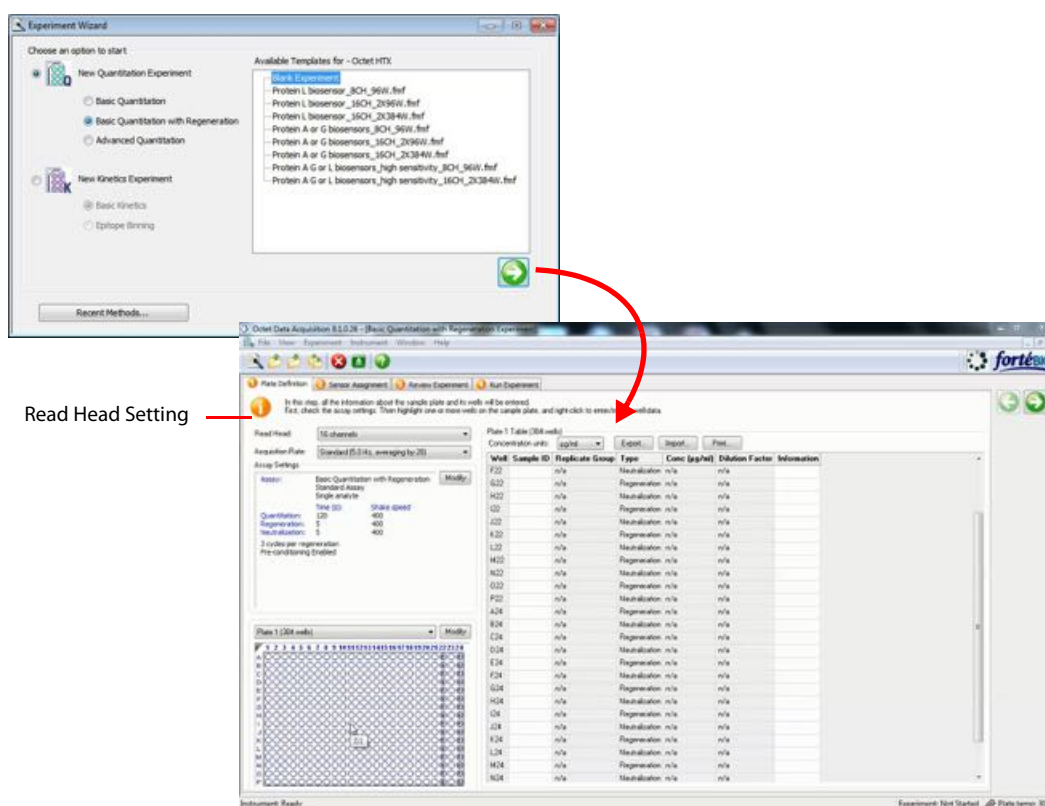

Figure 7-1: Selecting an Experiment Type in the Experiment Wizard (for Octet RED384)
2. In the **Experiment Wizard**, select **New Quantitation Experiment** (see Figure 7-1, left).
The **Experiment** window displays (Figure 7-1, right).
The Octet read head contains the collection optics. If the read head is set to 8 channels, one column of 8 biosensors interrogate 8 plate wells. If the read head is set to 16 channels, two columns of biosensors interrogate 16 wells (Figure 7-1).